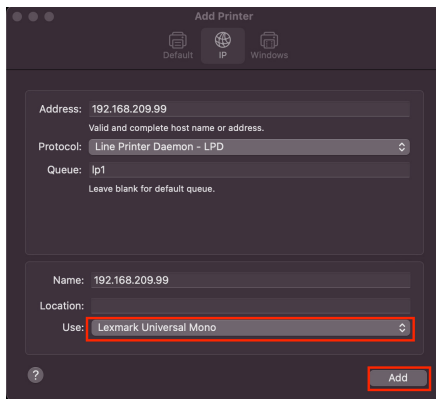

Figure 36
- Look through the list to find the **Printer Make** and **Model**, e.g, Lexmark Universal Mono. (Figure 36)